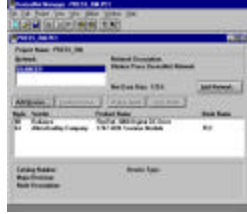

Figure 6.6
3. The list is in alphabetical order by Vendor. Page down to the "R's" and the "Reliance FlexPak 3000 Variable Frequency Drive" item is available for selection. To add a FlexPak 3000 as Node 1, select the FlexPak 3000 item, change the Node Address to 1, and press "OK". Press "Cancel" when finished. The FlexPak 3000 will now be added to the list of devices on the BLANKER network, as shown in Figure 6.6.